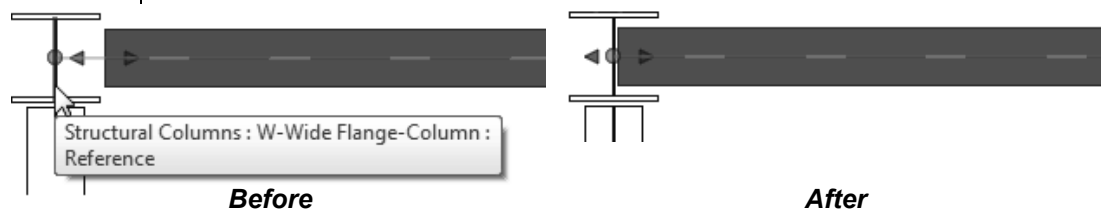

Figure 7–40
- The end of the framing, the member moves to the new reference location, as shown on the right in Figure 7–40.